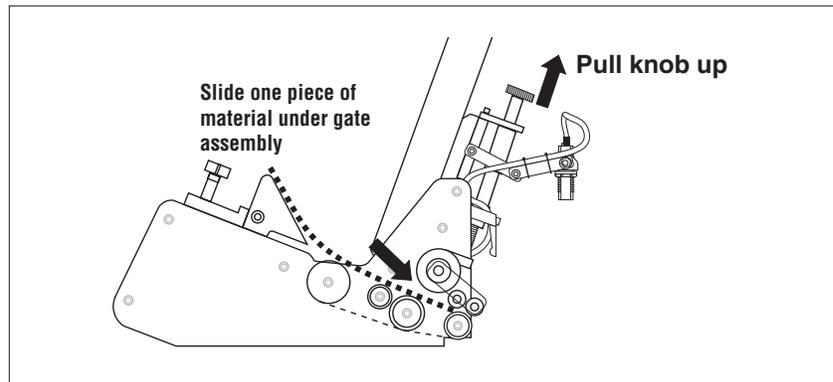

Figure 15. Lifting Gate Assembly Upward to Insert Material
1. Slide one envelope under the gate assembly (figure 15)
It may be necessary to pull up on the adjustment knob to allow the piece to be inserted (figure 15).